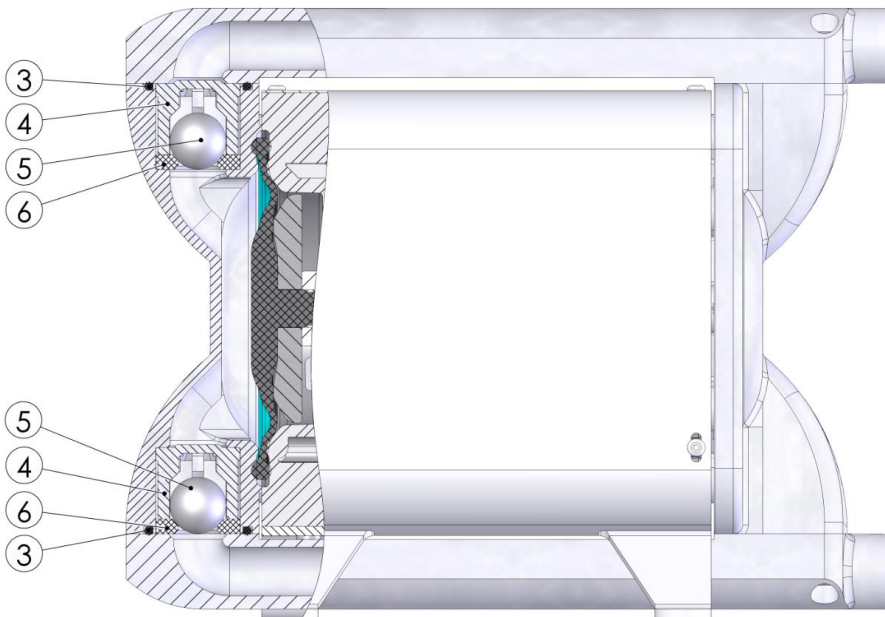

Fig. 5: Installation of the support disc
1. Loosen the fillister head screws (A) on both media tubes (B, C) and remove the media tubes (B, C).
2. Loosen the hexagon screws (D) of the housing cover (E) and remove the housing cover (E).
3. Remove the diaphragm (1) and the support disc (2) from the piston rod by turning counterclockwise.
4. Place the new diaphragm (1) onto the new support disc (2) and firmly screw both parts in a clockwise direction on the piston rod. Observe the installation direction of the support disc (see figure 5).